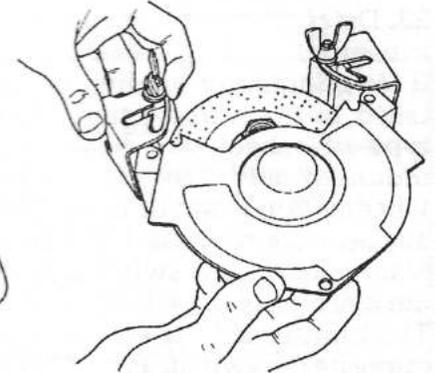

Fig. 16
17. Slip the guard cover (18) notches between the guard and each tool rest. See Fig. 16. Do not tighten the wing nuts yet.